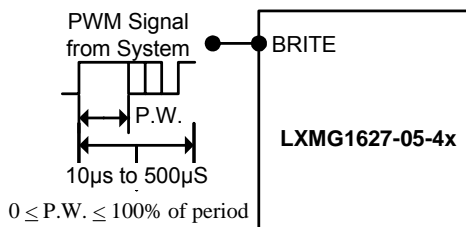

Figure 1A – PWM Brightness Control
- The brightness control may be a voltage output DAC or other voltage source, a digital pot or 500k manual pot. The inverter contains an internal 300k pull-up to typically 4.2V to bias the pot. A PWM logic level signal (figure 1A) may be used up to 5V; however the inverter will reach maximum current at less than 100% duty cycle. This can be calculated as approximately 2.3V divided by the logic high voltage level; with 3.3V logic level this corresponds to about 70% duty cycle for maximum lamp current.